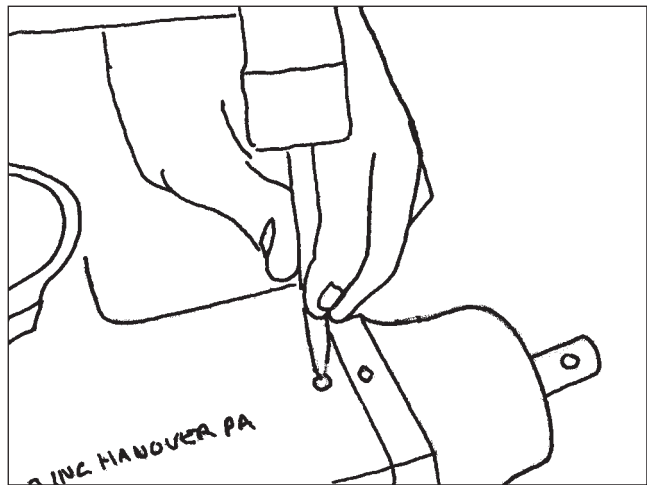

Figure 40
2. Locate the plunger hole in the end cap. Using the 1/4" punch and hammer, drive the auto plunger in until it bottoms out in the bore. Take care to keep the punch straight in the bore and use only light hammer blows to drive the auto plunger assembly (**Figure 40**).